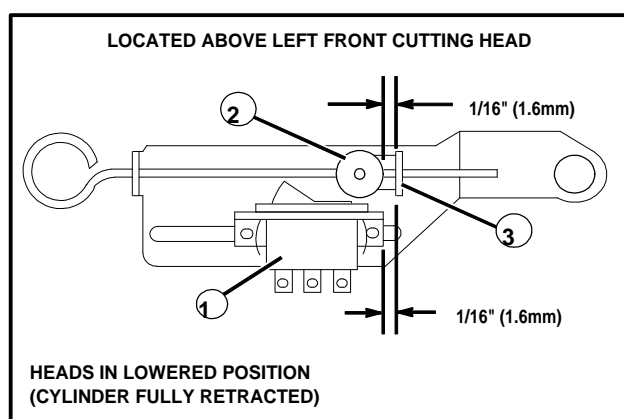

Figure 23
Cutting head lift and lower timing are controlled by the sequence control and normal open limit switches. The sequence control switch, located above the left front cutting head, (See Fig. 23) allows hydraulic oil to flow to the rear lift cylinder. This sets the proper timing for the lifting and lowering between the front heads and the rear head. The limit switches, located above the rear cutting head, (See Fig. 23) shuts the oil flow off when the rear cylinder is fully extended or retracted.
1. With the cutting heads lowered and cylinders fully retracted, check the dimension of 1/16" (1.6mm) between the cam and ear and the same dimension between the switch bracket and ear (See Fig. 23).